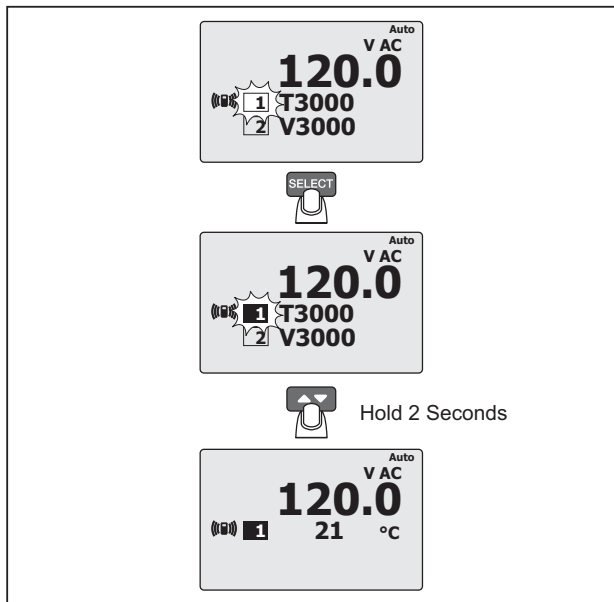

Figure 1. Module Binding Procedure
At the end of the discovery procedure, all discovered modules shown in the display have a black number on a grey background. See Figure 1. This shows the modules to which the Product is bound. Although the display can only show three modules, the Product can discover and temporarily bind to a maximum of six modules.
2. Push **SELECT**. The number of the selected module will change to a grey number on a black background. See Figure 1.